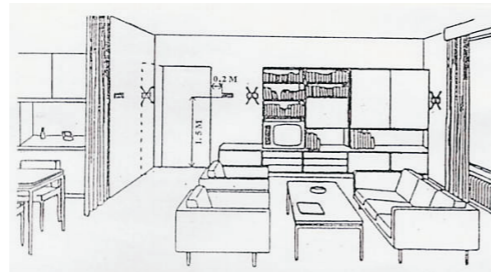

Figure 2 – Locations where the therma plug should not be Mounted
**NOTE:** The therma plug is for indoor use only. It should be mounted on an inner wall about 5 feet (1.5 m) above the floor in a place where the general room humidity is as accurate as possible. See Figure 2. The areas marked with an "X" are areas where the therma plug should not be mounted.